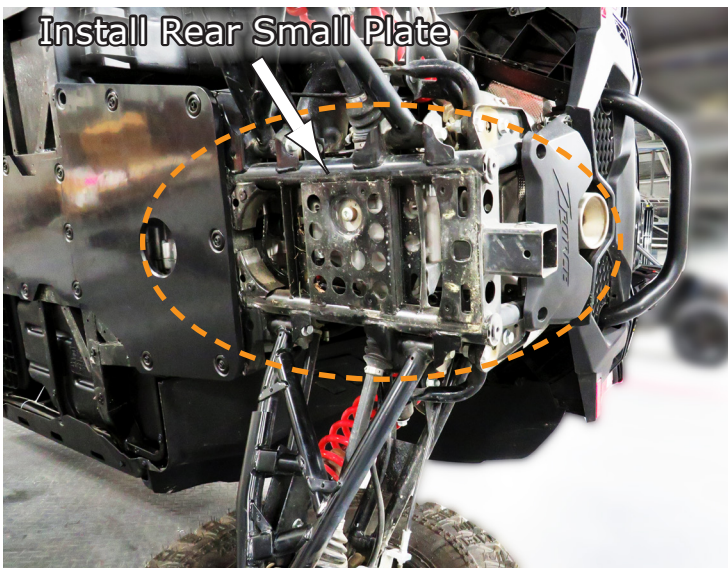

Fig.6a
6.Now install the last **Rear Small Plate** for the middle section with the same hardware as the previous plates in the location shown in **Fig.6a-b**. (Reference **Fig.1** for Factory Screw locations)